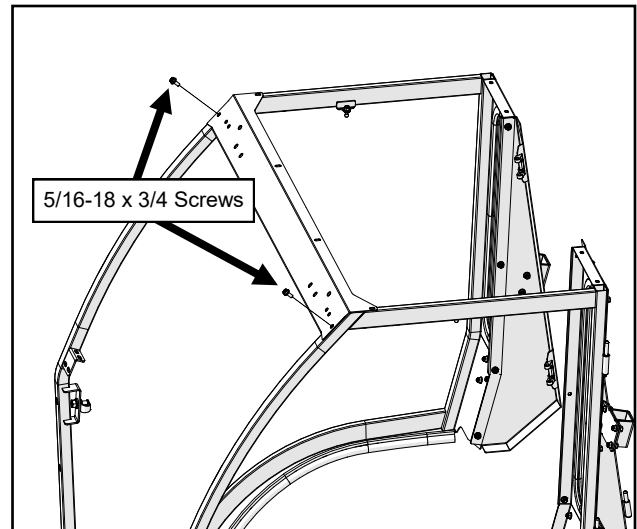

Fig. 6.1 (Install Windshield Support)
- 6.1 With assistance, hold the windshield support in place and attach with a screw to the front of each side frame. See Figure 6.1. Do not screw in the top at this point.